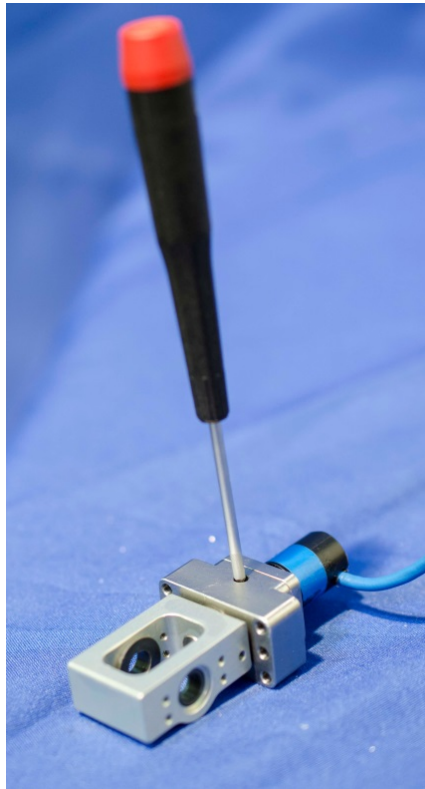

Figure 9-7. Install set-screw against Y-axis potentiometer shaft
- 9.2.2.3 Install an M2.5 x 0.45 x 4 SSSCP set-screw through the mounting block against the Y-axis potentiometer shaft (Figure 9-7).